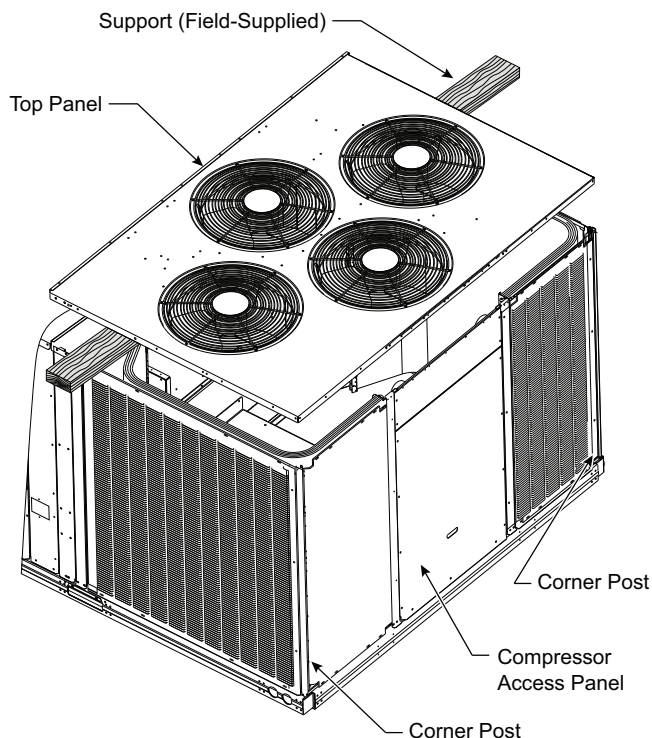

Fig. 20 — Top Panel Removal
3. Lift the top panel at the condenser fan end and support the top panel so it remains level while resting on the condenser fans as shown in Fig. 20.
4. Remove the compressor access panel to access the lower coil clips. The condenser coil corner post may also be removed. See Fig. 20.